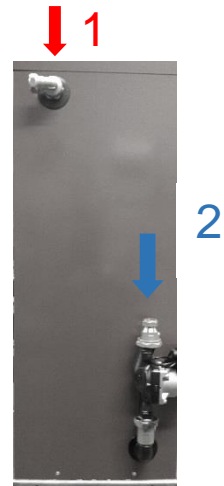

Figure 1
- Keep a minimum distance of 250mm behind the boiler for the flue-gas outlet (see figure 1)
### B-serie CH (figure 1)